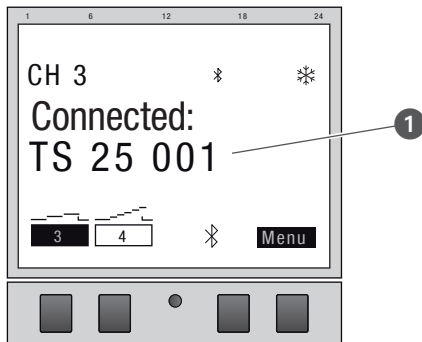

Fig. 24: Channel extension is connected to the DIN-rail timer
9. The channel extension displays the name of the connected device if there is an active connection (Fig. 24/1).